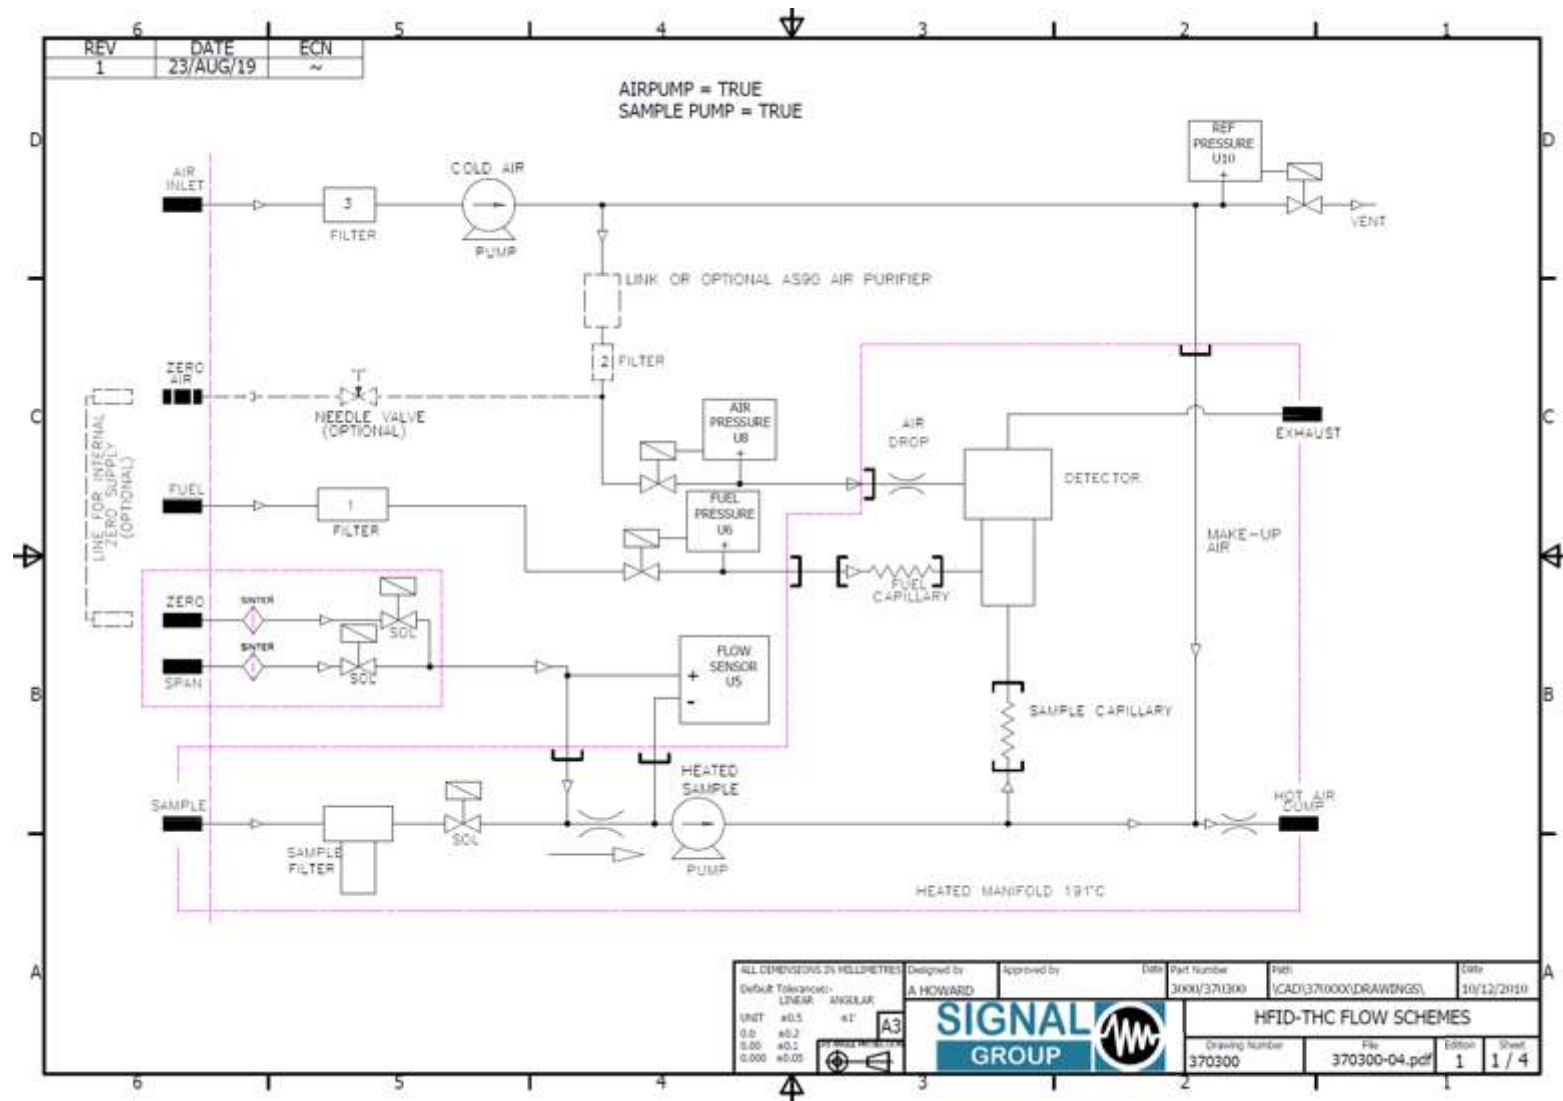

Figure 1 : THC flow schematic (with air and sample pumps)
- Figure 1 : THC flow schematic (with air and sample pumps)